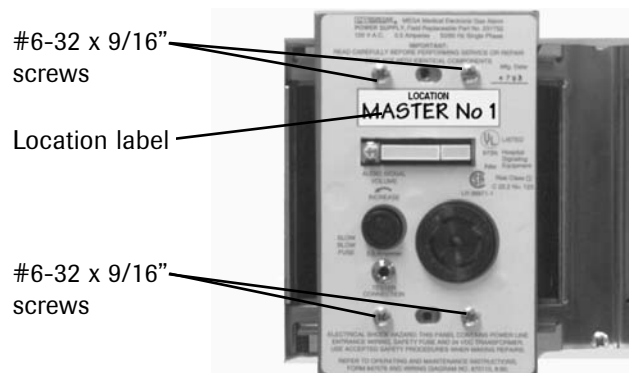

Figure 11
6. Install the power supply module chassis in the mounting box and secure with (4) #6-32 x 9/16" screws. Refer to **Figure 11**.
7. Install the location label. Refer to **Figure 11**.